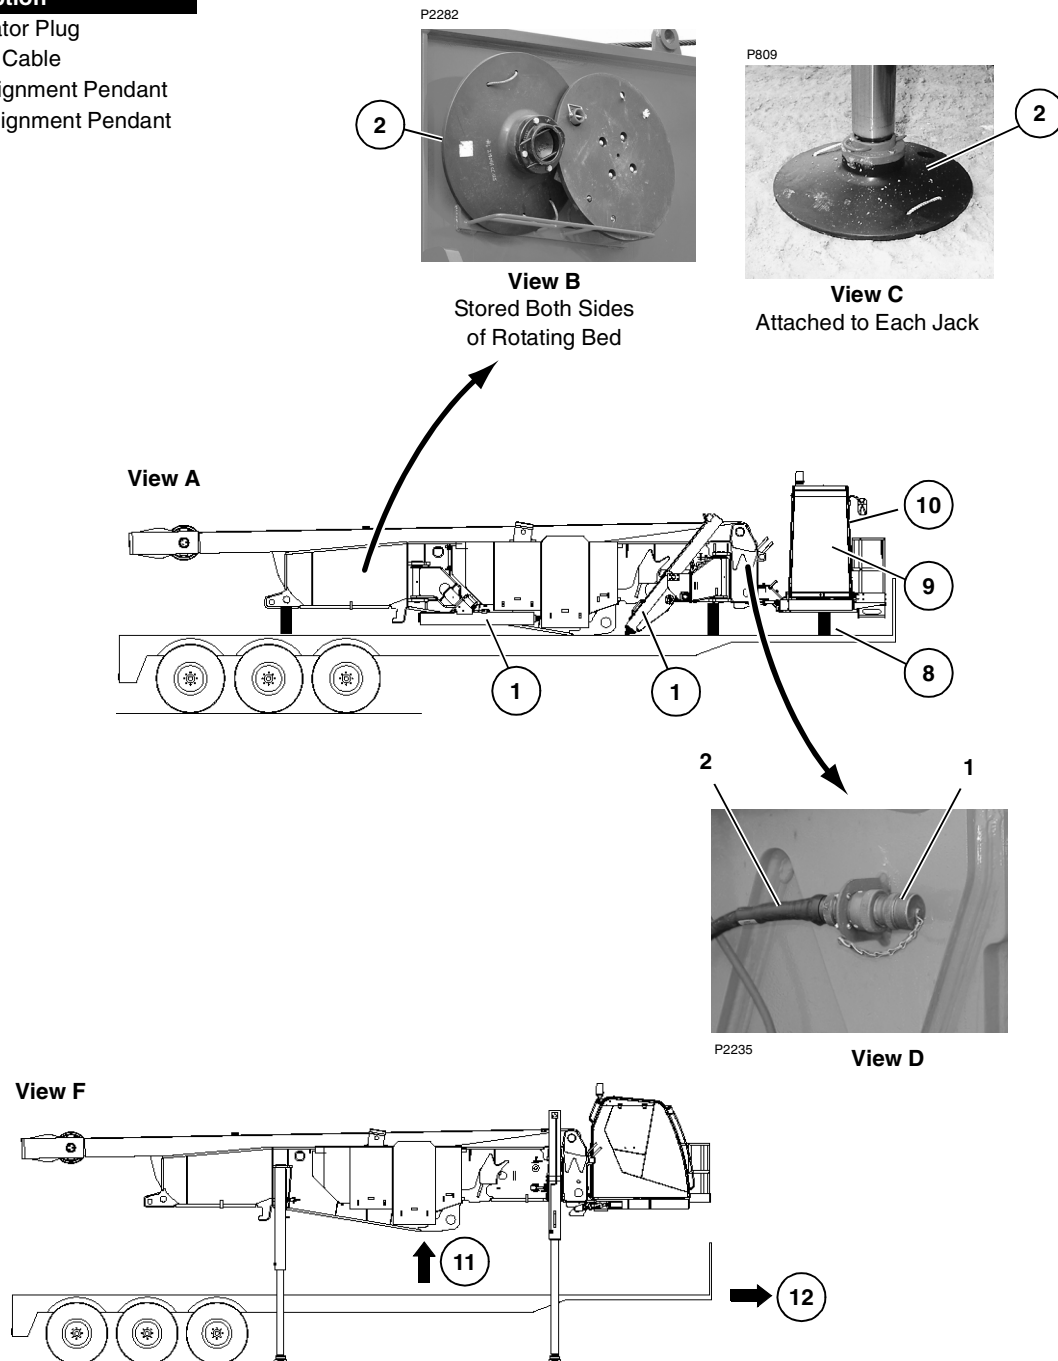

FIGURE 4-6
**NOTE:** Circled numbers in Figure 4-6 correspond to following steps.
**NOTE:** The engine will not start until terminator plug (1, View D, Figure 4-6) is connected to cable (2).
See Figure 4-6 for following procedure, unless otherwise specified.
19. Remove and store rear alignment pendants. Store front alignment pendants. See Figure 4-6.